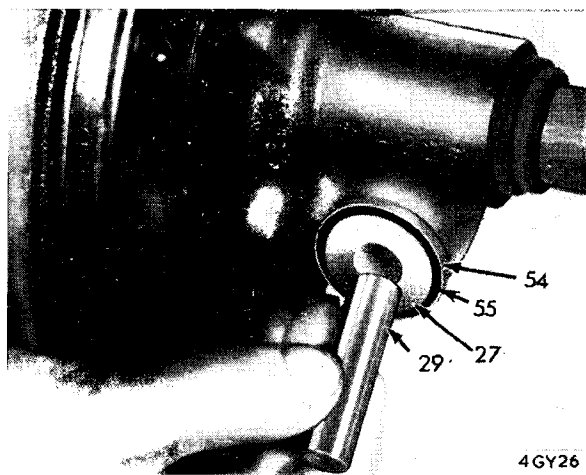

Fig. 31. Trunnion bush
5. Remove the bolt (31), Fig. 23, and withdraw the vertical link (10) from the trunnion housing (26). Remove the steel bush (29), Fig. 31.